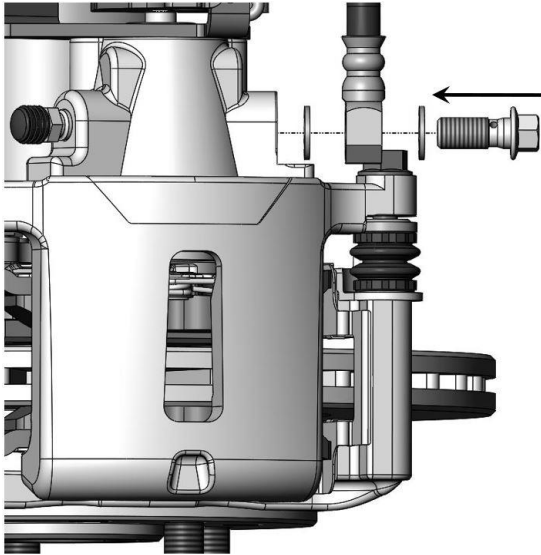
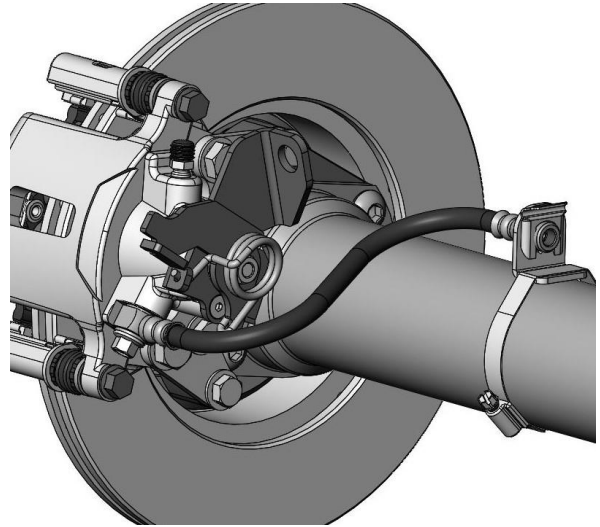

Figure 12a – Brake Hose Attachment to Caliper
Figure 12b – Brake Hose Attached at the Rear Axle Housing
16. Install the flexible brake hose. Attach the brake hose to the caliper using the provided banjo bolt and copper crush washers as shown in Figure 12a below. Fasten the “L” shaped brackets onto the axle housing. This can be done with large worm style clamps like shown below in Figure 12b or by welding or bolting. Once the brackets are installed, use the provided clip and attach the brake hose to the bracket. Attach the hardline to the brake hose. It may be necessary to shorten and re-flare the hardline